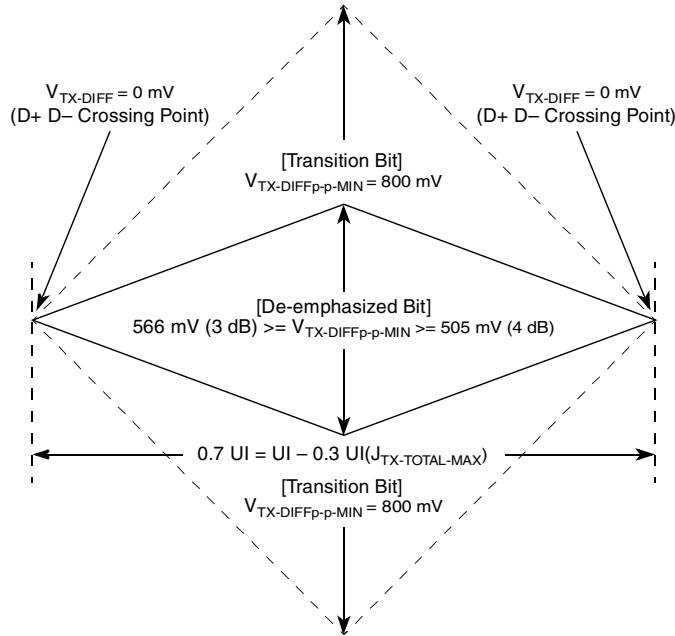
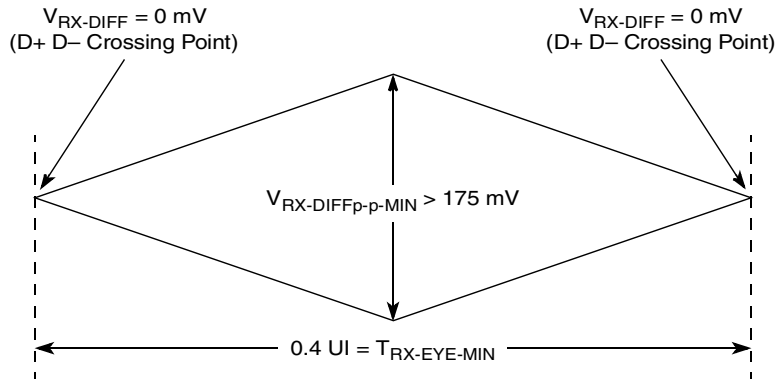
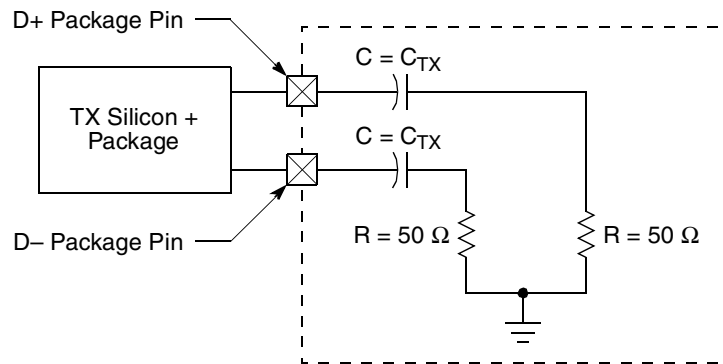

Figure 42. Minimum Transmitter Timing and Voltage Output Compliance Specifications
Figure 43. Minimum Receiver Eye Timing and Voltage Compliance Specification
Figure 44. Compliance Test/Measurement Load
2. Specified at the measurement point into a timing and voltage compliance test load as shown in Figure 44 and measured over any 250 consecutive Tx UIs. (Also refer to the transmitter compliance eye diagram shown in Figure 42.)
4. The transmitter input impedance will result in a differential return loss greater than or equal to 12 dB and a common mode return loss greater than or equal to 6 dB over a frequency range of 50 MHz to 1.25 GHz. This input impedance requirement applies to all valid input levels. The reference impedance for return loss measurements is 50 Ω to ground for both the D+ and D– line (that is, as measured by a vector network analyzer with 50- Ω probes, see Figure 44). Note that the series capacitors, C_{TX} , is optional for the return loss measurement.
5. Measured between 20%–80% at transmitter package pins into a test load as shown in Figure 44 for both V_{TX-D+} and V_{TX-D-} .
The Tx eye diagram in Figure 42 is specified using the passive compliance/test measurement load (see Figure 44) in place of any real PCI Express interconnect + Rx component. There are two eye diagrams that must be met for the transmitter. Both diagrams must be aligned in time using the jitter median to locate the center of the eye diagram. The different eye diagrams differ in voltage depending on whether it is a transition bit or a de-emphasized bit. The exact reduced voltage level of the de-emphasized bit is always relative to the transition bit.
2. Specified at the measurement point and measured over any 250 consecutive UIs. The test load in Figure 44 should be used as the Rx device when taking measurements (also refer to the receiver compliance eye diagram shown in Figure 43). If the clocks to the Rx and Tx are not derived from the same reference clock, the Tx UI recovered from 3500 consecutive UI must be used as a reference for the eye diagram.
4. The receiver input impedance will result in a differential return loss greater than or equal to 10 dB with the D+ line biased to 300 mV and the D– line biased to –300 mV and a common mode return loss greater than or equal to 6 dB (no bias required) over a frequency range of 50 MHz to 1.25 GHz. This input impedance requirement applies to all valid input levels. The reference impedance for return loss measurements for is 50 Ω to ground for both the D+ and D– line (that is, as measured by a vector network analyzer with 50- Ω probes, see Figure 44). Note that the series capacitors, C_{TX} , is optional for the return loss measurement.
The Rx eye diagram in Figure 43 is specified using the passive compliance/test measurement load (see Figure 44) in place of any real PCI Express Rx component. In general, the minimum receiver eye diagram measured with the compliance/test measurement load (see Figure 44) is larger than the minimum receiver eye diagram measured over a range of systems at the input receiver of any real PCI Express component. The degraded eye diagram at the input receiver is due to traces internal to the package as well as silicon parasitic characteristics that cause the real PCI Express component to vary in impedance from the
compliance/test measurement load. The input receiver eye diagram is implementation specific and is not specified. Rx component designer should provide additional margin to adequately compensate for the degraded minimum receiver eye diagram (shown in Figure 43) expected at the input receiver based on an adequate combination of system simulations and the return loss measured looking into the Rx package and silicon. The Rx eye diagram must be aligned in time using the jitter median to locate the center of the eye diagram.
The reference impedance for return loss measurements is 50 Ω to ground for both the D+ and D– line (that is, as measured by a Vector Network Analyzer with 50 Ω probes—see Figure 44). Note that the series capacitors, C_{PEACCTX}, are optional for the return loss measurement.
The AC timing and voltage parameters must be verified at the measurement point, as specified within 0.2 inches of the package pins, into a test/measurement load shown in Figure 44.